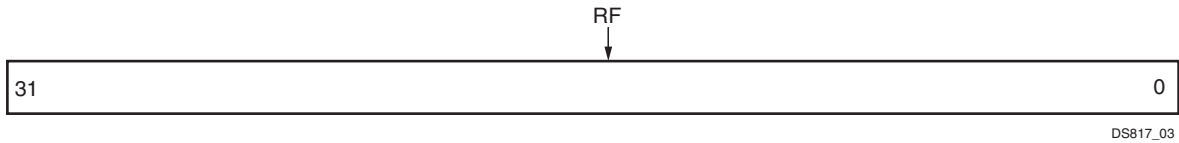

Figure 3: Read FIFO (RF)
The Read FIFO (RF) register shown in Figure 3 is a 32-bit Read FIFO. The bit definitions for the Read FIFO are shown in Table 6. The offset and accessibility of this register from C_BASEADDR value is as shown in Table 4.